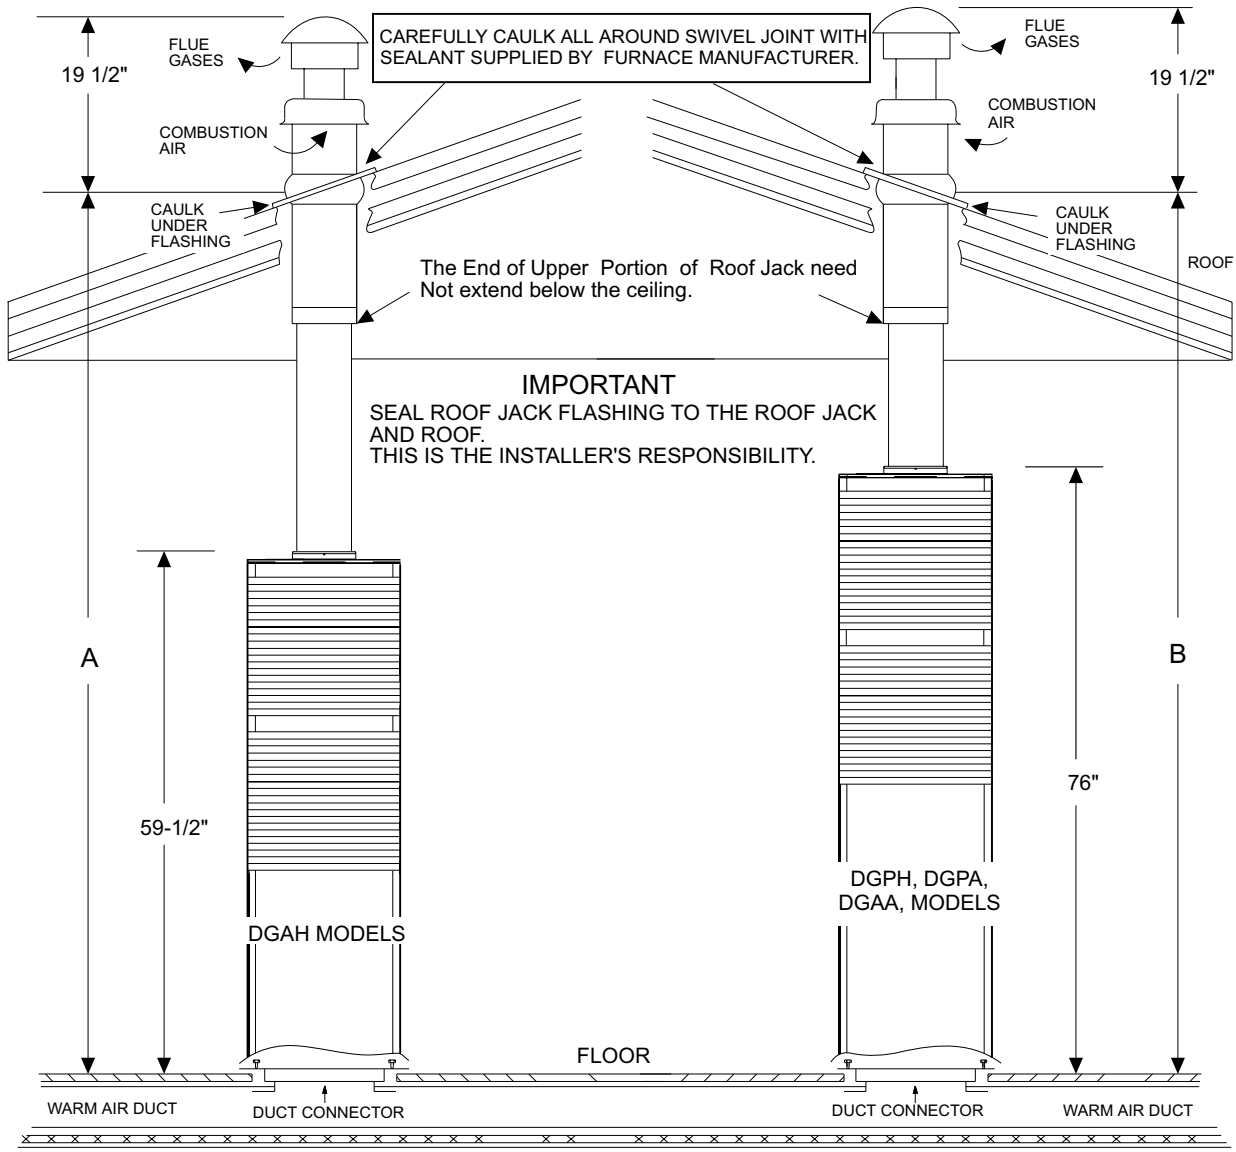

FIGURE 6 : Standard Roof Jack
*Only use the appropriate roof jack. See Figures 6 & 7 for correct application.*
*Do not exceed the maximum height as determined from Figures 6 & 7. Installer should allow an additional 1-1/2" travel before the flue pipe assembly is fully extended against the built-in stop. This provides an additional safeguard against the flue assembly being pulled from the roof jack during transportation or other stress conditions.*
(See Figure 6 & 7 for Dimensional requirements.)